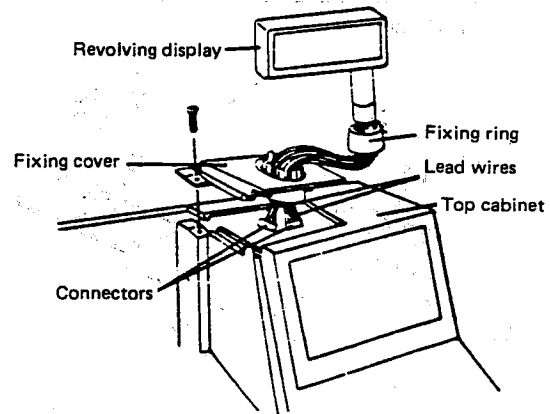

Fig. 18-21
- ① Set up the units (revolving display, fixing ring and fixing cover) as shown in Fig. 18-21 and temporarily secure the sets by rotating the fixing ring clockwise.